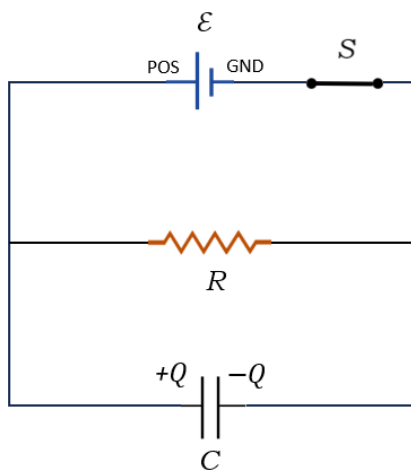
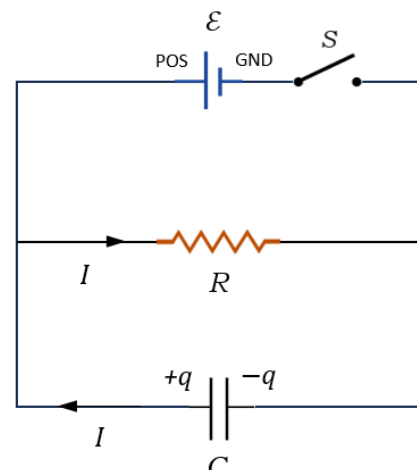
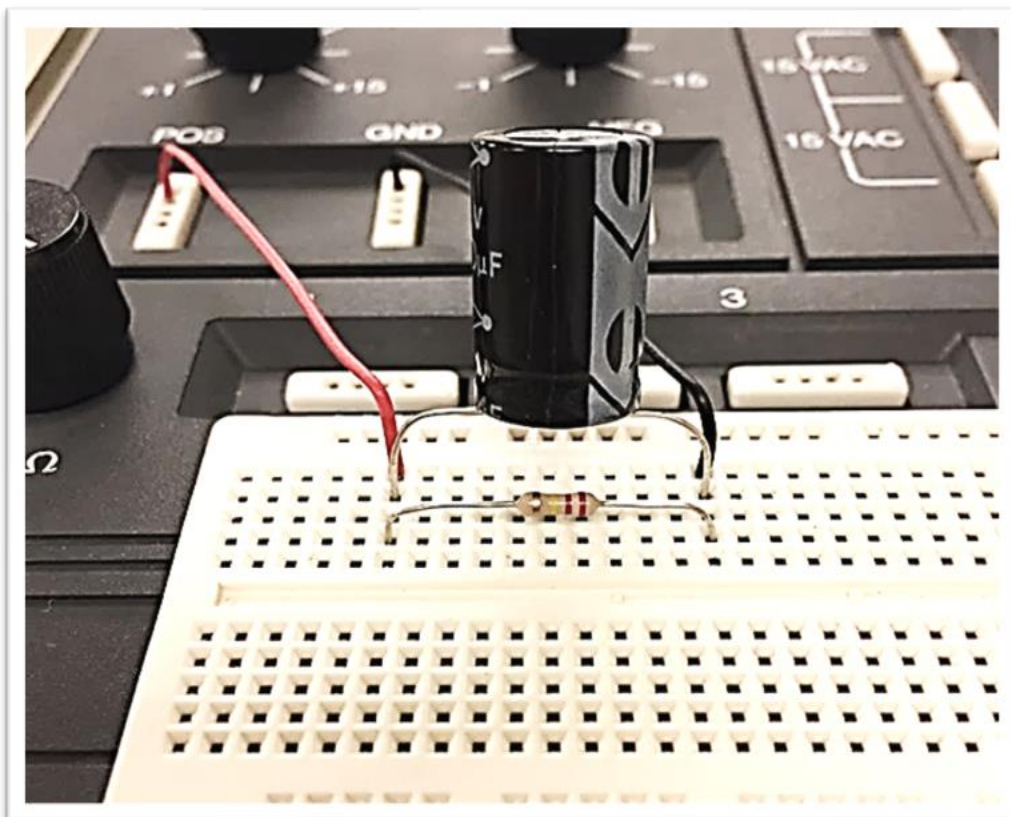

Fig. 1
Fig. 2
Fig. 4: R-C discharging circuit connection
In experiment five, we analyzed the process of charging a capacitor. Here, we will analyze the process of discharging a capacitor. Consider the circuit shown in **Fig. 1**, where a capacitor C is connected in parallel to a resistor R and to an electromotive force (power supply) \mathcal{E} . Initially, when the switch S is closed, the capacitor is fully charged to a value of $Q = C\mathcal{E}$. As the switch is opened (**Fig. 2**), the power supply is disconnected from the circuit and the capacitor starts to discharge through the resistor.
1. Connect the circuit given in **Fig. 1** as shown in **Fig. 4** (make sure that the lead of the capacitor at the arrowhead is connected to the ground).